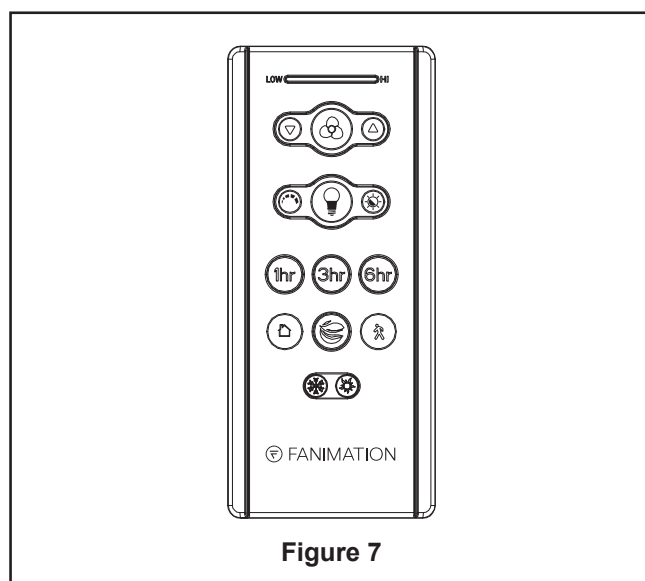

Figure 7
- ☐ 9. Remote functions: (Figure 7)